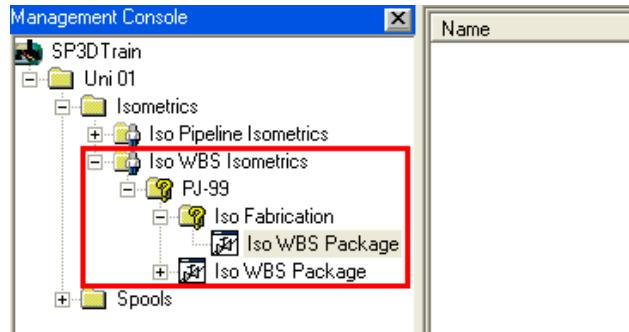

Figure 14: Drawing Management Console
19. The active project **PJ-99** and WBS item **Iso Fabrication** appears in the hierarchy of the **Management Console**, as shown in Figure 14.